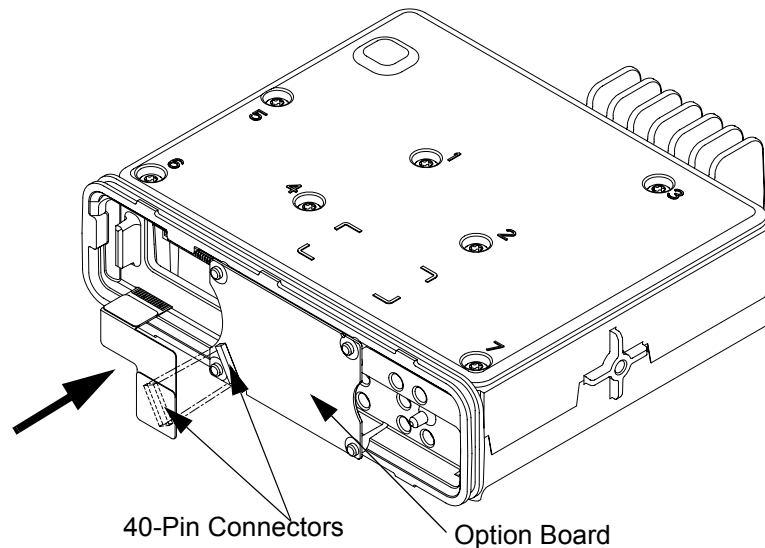

Figure 5-64 Assembling Option Flex to Option Board
3. Assemble option flex (8415457H01) onto option board by aligning up 40-pin mating connectors. Refer to Figure 5-64.